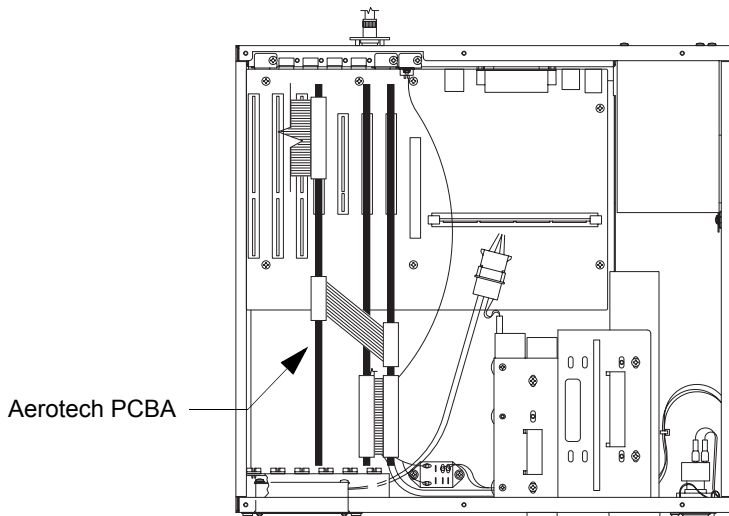

Figure 9-22 Location of the Aerotech PCBA
4. Note the orientation of all cables prior to their removal; see Figure 9-22.